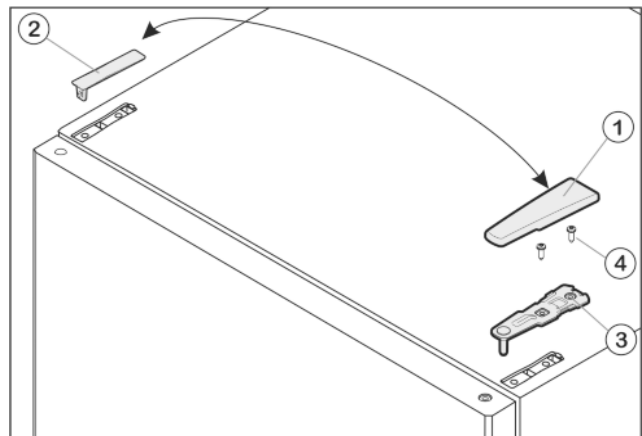

Fig. 8
- ▶ Pull off the cover Fig. 8 (1) forwards and upwards.
- ▶ Lift off the cover Fig. 8 (2).
- ▶ Unscrew the upper turn hinge Fig. 8 (3) (2x Torx® 25) Fig. 8 (4) and lift it off.
- ▶ Insert the upper turn hinge *Fig. 8 (3)* in the door on the new hinge side.
- ▶ Screw the upper turn hinge **firmly** into place (**with 4 Nm**) (2x Torx® 25) *Fig. 8 (4)*. Possibly make preliminary holes with a bradawl or use a cordless screwdriver.
- ▶ Apply the cover *Fig. 8 (1)* and cover *Fig. 8 (2)* to the opposite side from the outside and snap them into place.